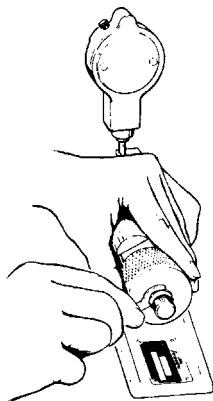

FIGURE 16
12. Holding the Micrometer Thimble, loosen the Locking Knob with the Spanner Wrench (CF-137A) provided. See Figure 16.